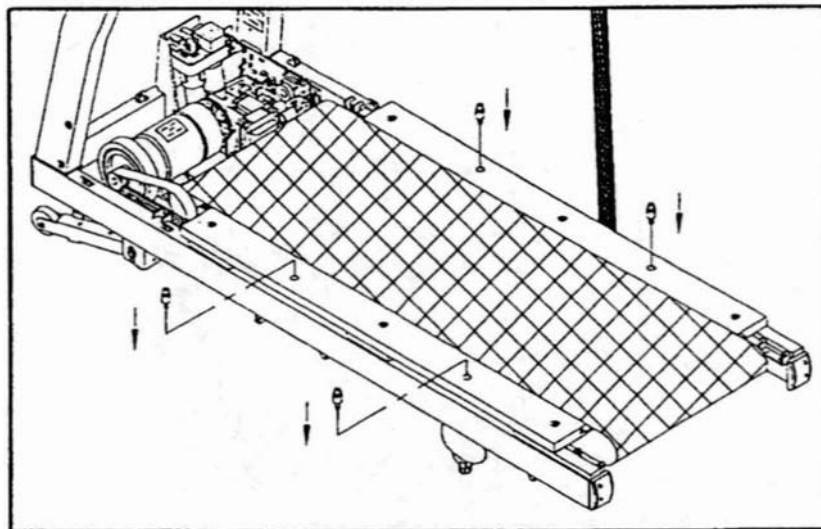

Fig. 17
4. Secure all screws with bushings. (see Fig. 17)